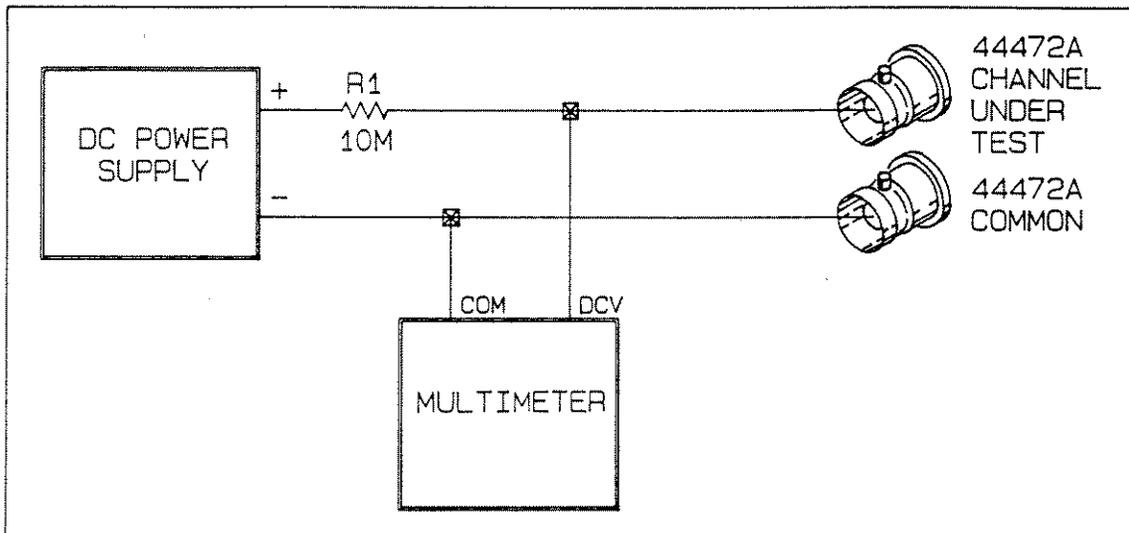

Figure 10-3 Open Channel DC Isolation Test
7. Connect the center conductor of the COM 0 connector into the test circuit as shown in Figure 10-3.
8. Connect the center conductor of the channel under test (channel 00 to start) into the test circuit as shown in Figure 10-3. Successively press the STEP key until the channel adjacent to the channel under test (channel 01 to start) appears in the display. Record the multimeter's dc voltage reading for the channel under test. This reading will be referred to as V3.